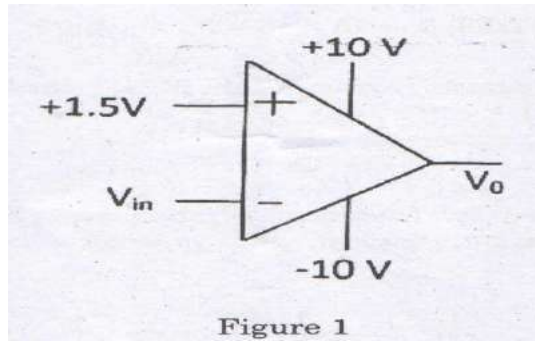

Figure 1
17. Determine the output voltage for the circuit shown in figure 1 when